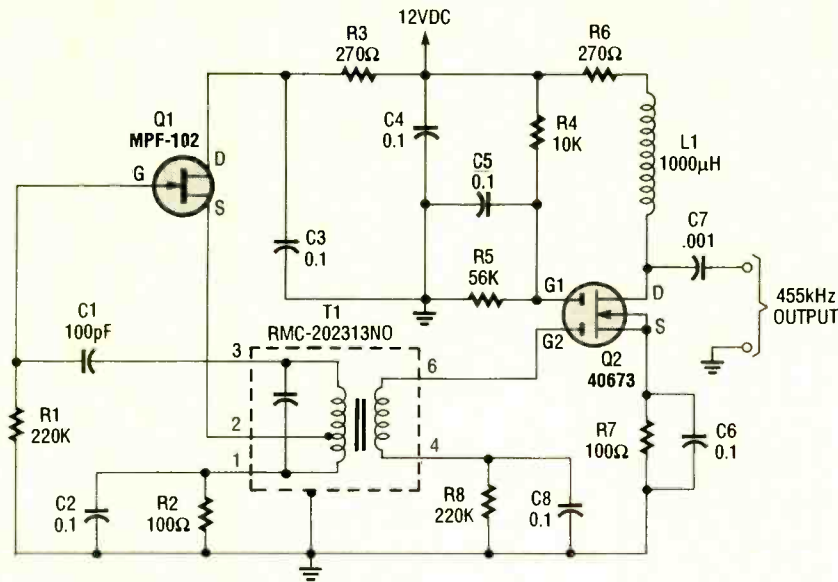

Fig. 5. This 455-kHz AM IF signal-generator circuit relies on transformer T1 for its frequency stability.
**455-kHz AM IF-Amplifier Test/Alignment Oscillator.** A modern superheterodyne AM radio uses a 455-kHz IF amplifier (262.5 kHz is used on AM car radios). Figure 5 shows a simple signal-generator circuit that can be used to test, troubleshoot, or align an AM IF stage in common radios. The active element is an MPF-102 (or NTE-312) junction field-effect transistor (JFET).
As you can see by comparing Fig. 5 to Fig. 1C, this circuit is of the basic Hartley-oscillator class because it uses